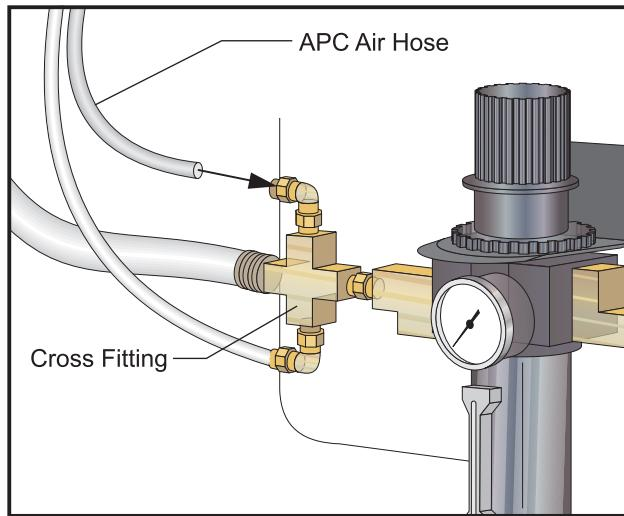

Figure 3.14 APC air hose connection to VMC air/lube cross fitting.
22. Screw the air blast hose into the APC. Remove the piece of tubing from the top fitting of the VMC lube/air panel cross fitting, and replace it with the APC air hose (see Figure 3.14).